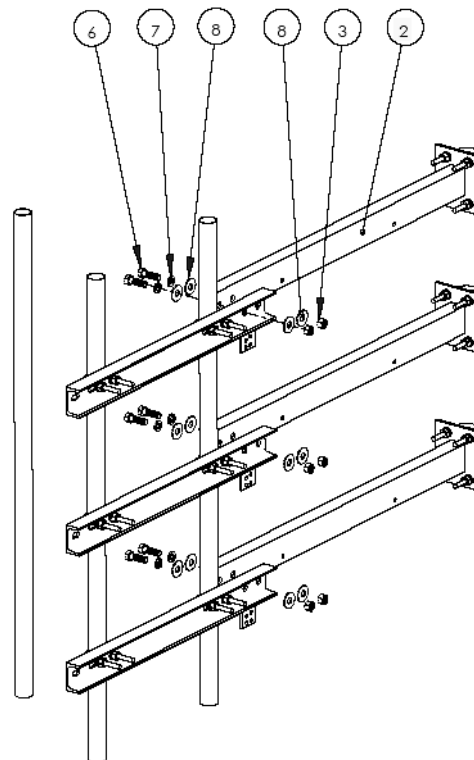

Figure C-32: Attaching Horizontal Arm to Clamp on a Mast
- 1 Use the bolts, washers, spring washers and nuts as listed in Table C-16 to attach the 3 horizontal arms to the clamps as shown in Figure C-32.